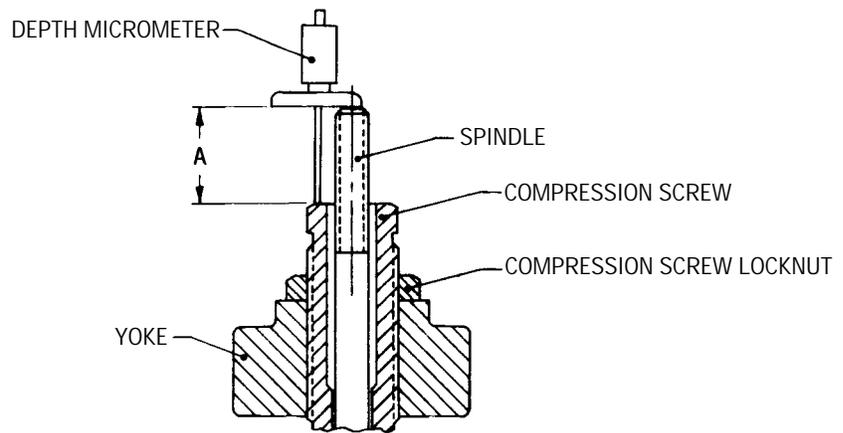

FIGURE 18
2. The use of a reseating machine is suggested for reconditioning badly worn seats, or for re-establishing Dimension E per Figure 18 (right). Dimension E should be re-established when it is less than .010" for orifices 1, 2, 3, 5 and 4; and less than .030" for orifices 6 and Q.